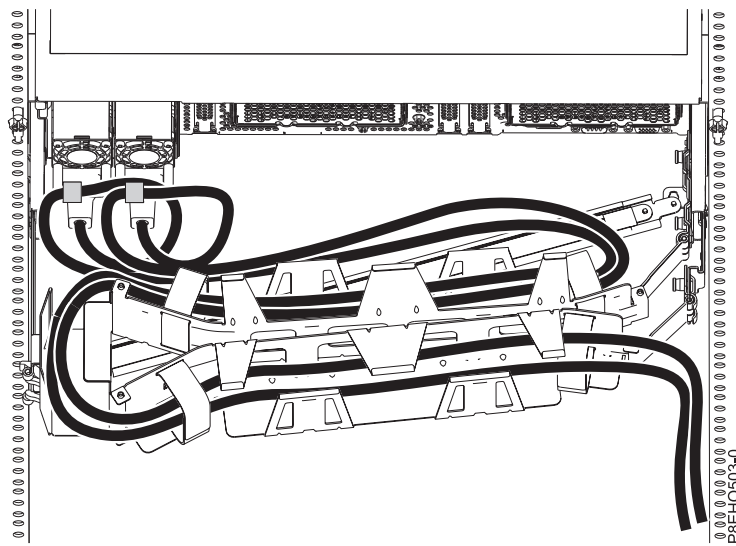
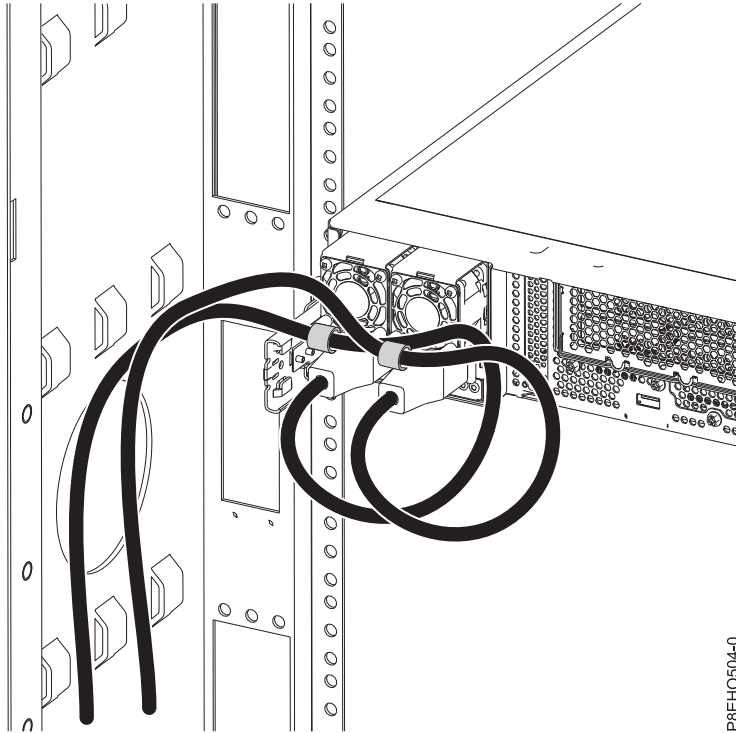

Figure 130. Power cord loop with cable management arm routing. The power cord loops counterclockwise to the right.
Figure 131. Power cord loop with sidewall routing. The power cord loops counterclockwise to the left.
3. Loop and attach the power cords to the power supply handle. Note how the power is looped; be sure to maintain at least a 5 cm (2 in.) diameter loop. There are two types of loops, detailed in Figure 130 and Figure 131 on page 131. Use the hook-and-loop fastener to tie the power cord to the power supply handle.